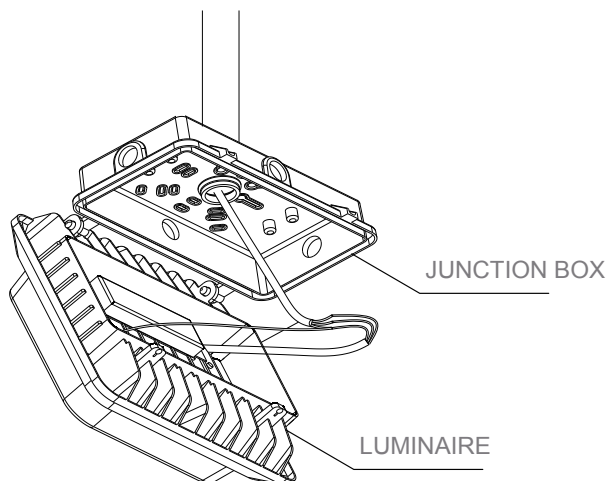

Figure 3
4. Make wire connection with supplied wire nuts per "Electrical Connections". See Figure 3.